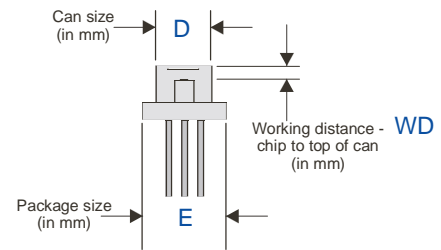

Figure 1: Laser Diode Package Dimensions
- 13) Laser diode package dimensions (See Figure 1):